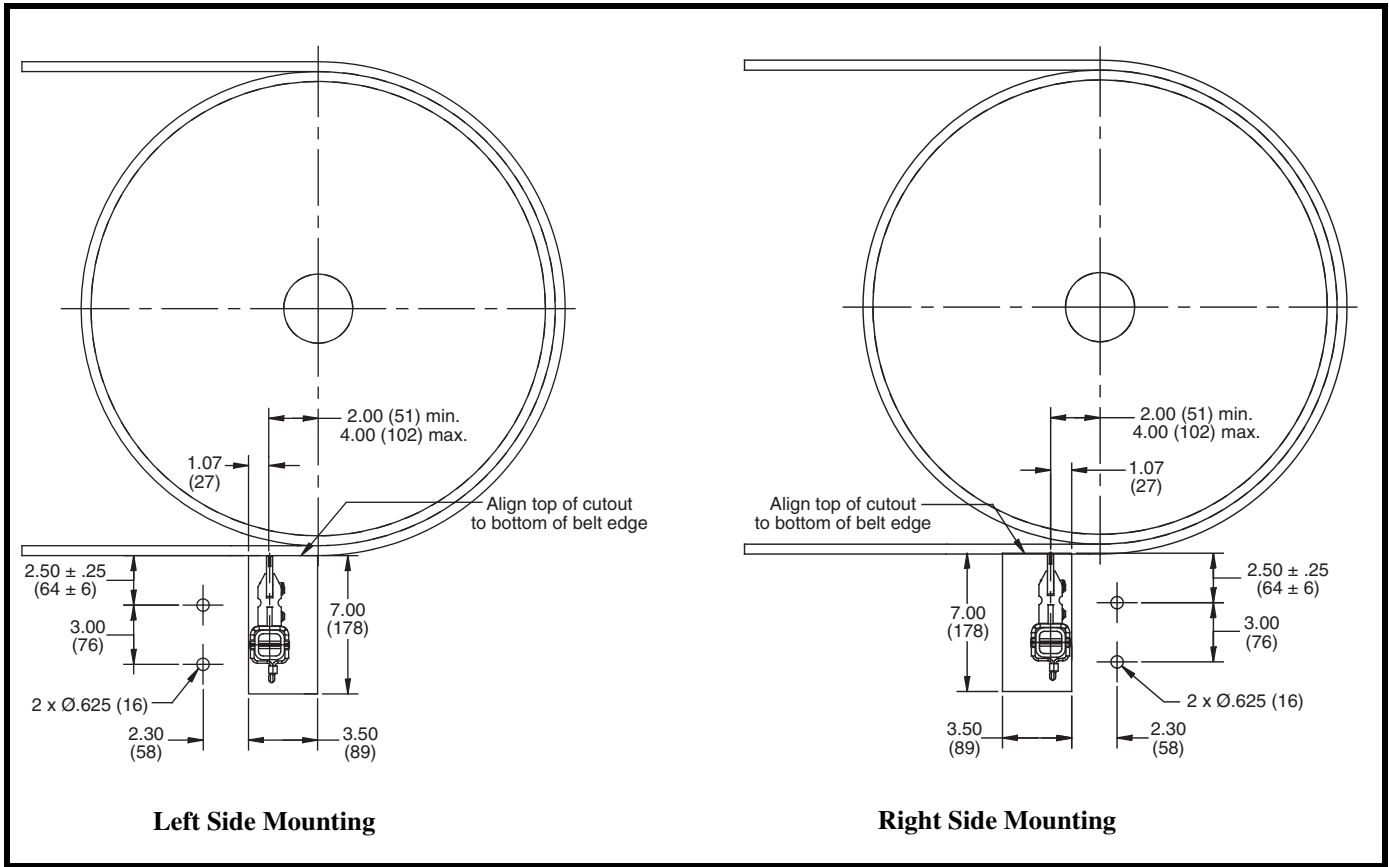

Figure 1. Mounting Locations
1. Mark the chute cutout and mount hole locations as shown in Figure 1. Repeat on both sides of chute, ensuring cutouts are accurately aligned with each other.
6. Slide blade cartridge onto mainframe with blade positioned as shown in Figure 1. Push far side end of blade against stationary pin until it locks.
9. Tighten nut (D) and set screw (K).